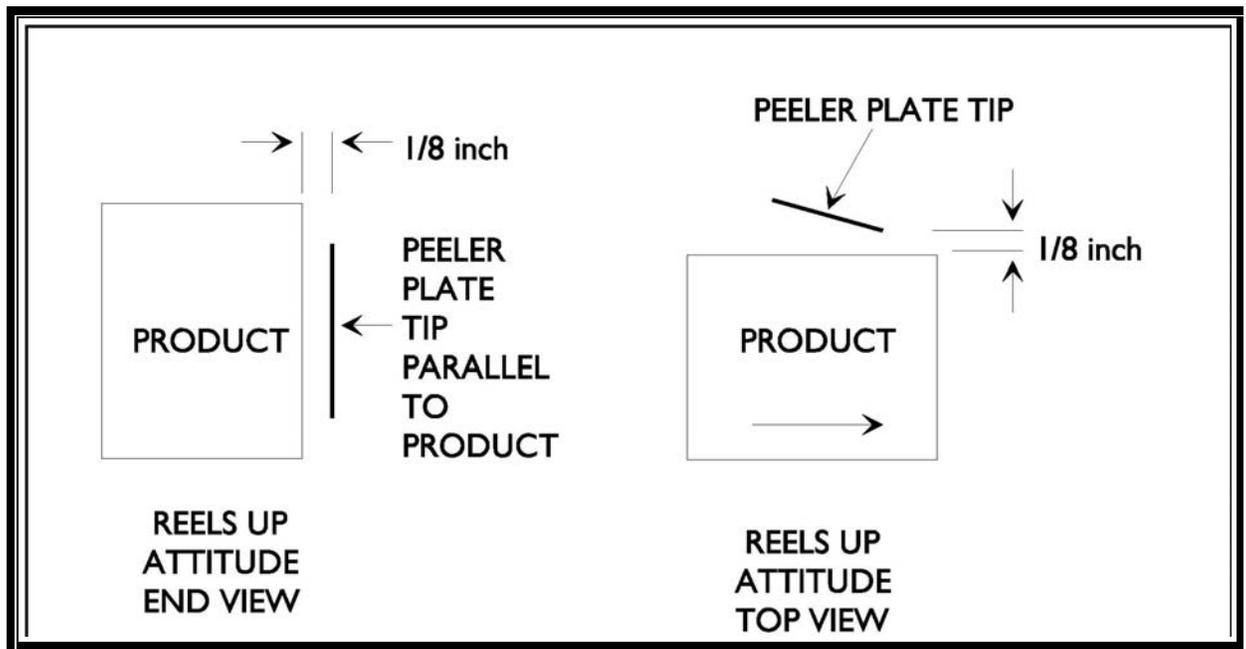

Figure 16- PEELER PLATE ALIGNMENT
3. The rear cover window on the detector must be opened before any adjustments can be made. See Figure 16. Press the flexible retaining clip against the cable to open the window.
3. Use a 9/64 inch hex head wrench to loosen the low label detector's adjustment screws. See Figure 16